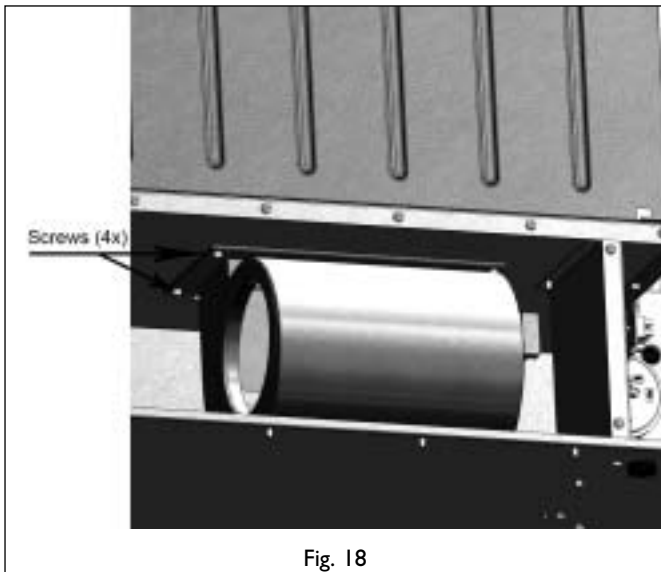

Fig. 18
- Take out the 4 socket cap screws that are used to mount the fan (see fig. 18).